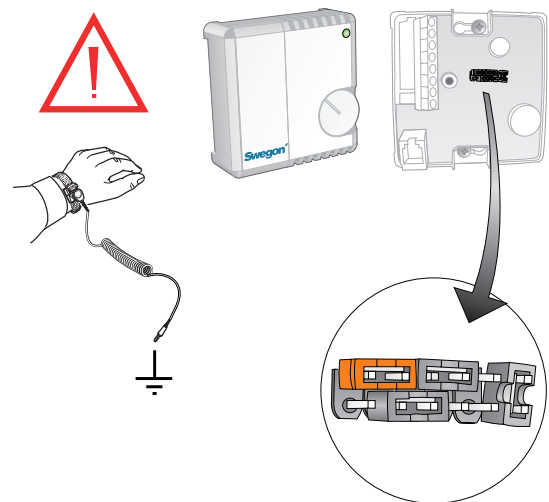

Figure 20. To reconnect the jumper of the controller for electric heating
4. Move the jumper on the jumper strip as shown in Figure 20.